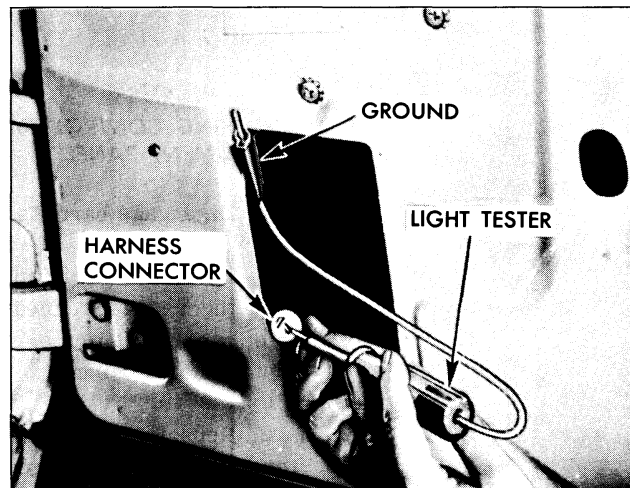

Fig. 18-9 Checking Circuit Between Switch and Motor
3. With test light check for current at terminal being checked. If tester does not light, there is an open or short circuit in the harness between the control switch and motor connector (Fig. 18-9).